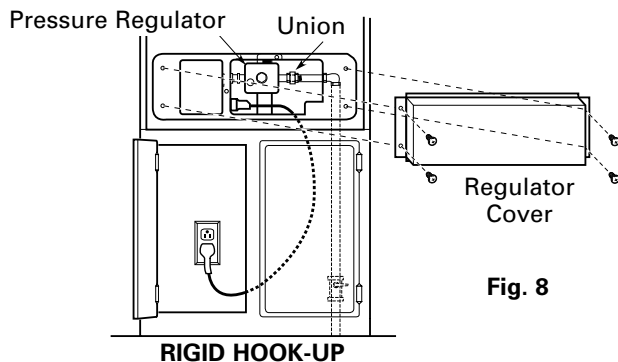

Fig. 8
2. The rigid pipe connection and union to the shutoff valve (see Fig. 8).